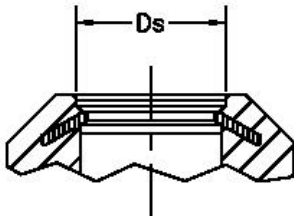

FIGURE 1
5. Refer to Figure 1 and measure the diameter of D_s with a precision caliper. This diameter must be in the range of values listed in Table 1. If this is not the case, replace the nozzle/seat subassembly.